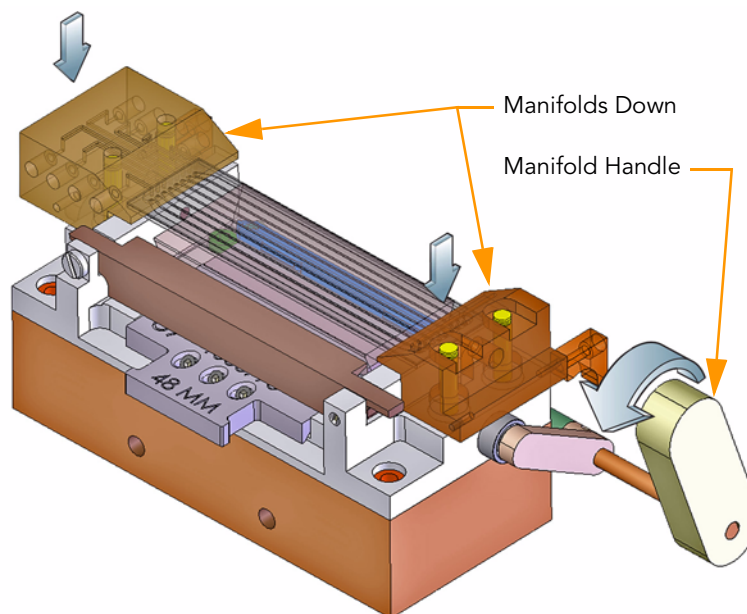

Figure 50 Lower the Manifold
5. While holding the flow cell against the stops with one hand, carefully rotate the manifold handle counterclockwise with the other hand to lower the manifolds into place (Figure 50).